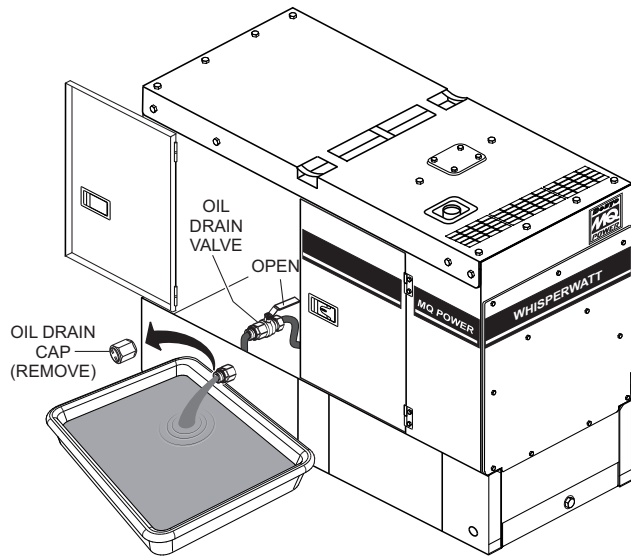

Figure 70. Draining The Engine Oil
4. Remove the **oil drain cap** (Figure 70).
5. Place the **oil drain valve** in the **OPEN** position (Figure 70) and allow the oil to drain into a suitable container.